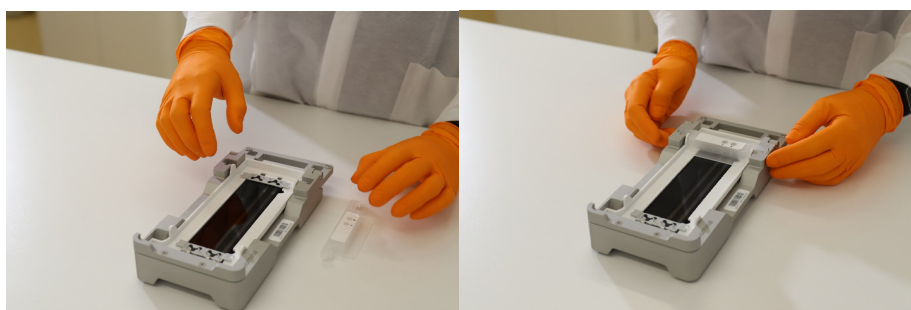

Figure 7. Mounting manifold over inlet
9. Mount the manifold over the inlet end of the flow cell, with the wells facing up (*Figure 7*). Make sure that the manifold arms fit securely into the dock cutouts.